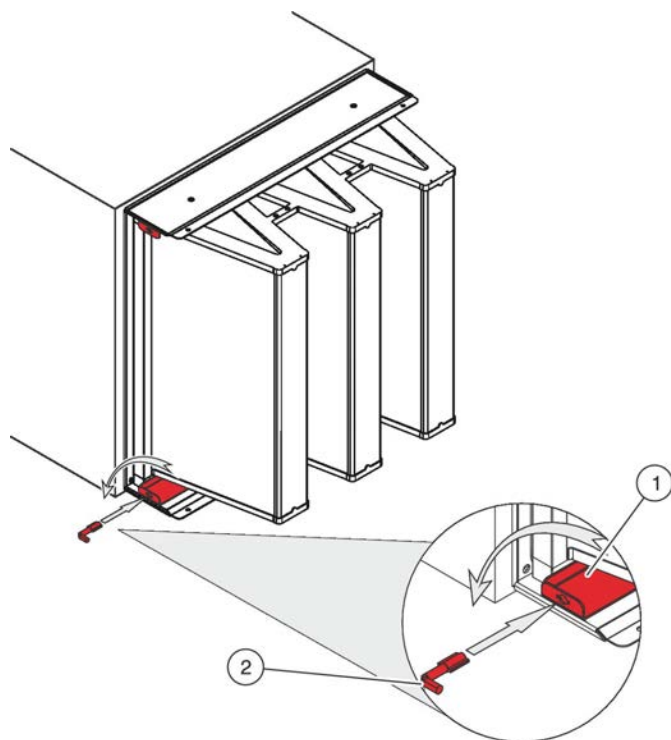

Fig. 58: Inserting the special key
3. ▶ Insert the special key (Fig. 58/2) into the recess of each clamping rail (Fig. 58/1) and turn it anti-clockwise by 90°.